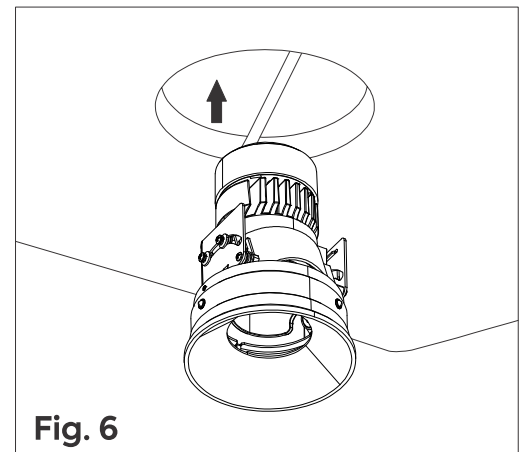

Fig. 6
Step 7: Insert the LED module assembly through the opening of the spackle frame until fully engaged. The opening edge of the reflector should be flush with the face of the spackle frame **Fig. 6**.